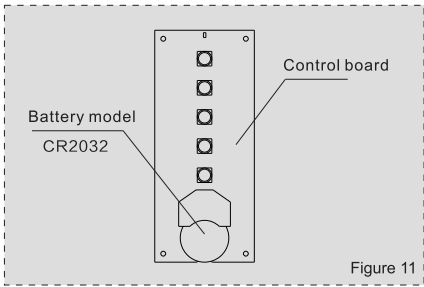

Figure 11
2. Remove the control board, push the battery out from the control board, and replace it with a new one (Figure 11);